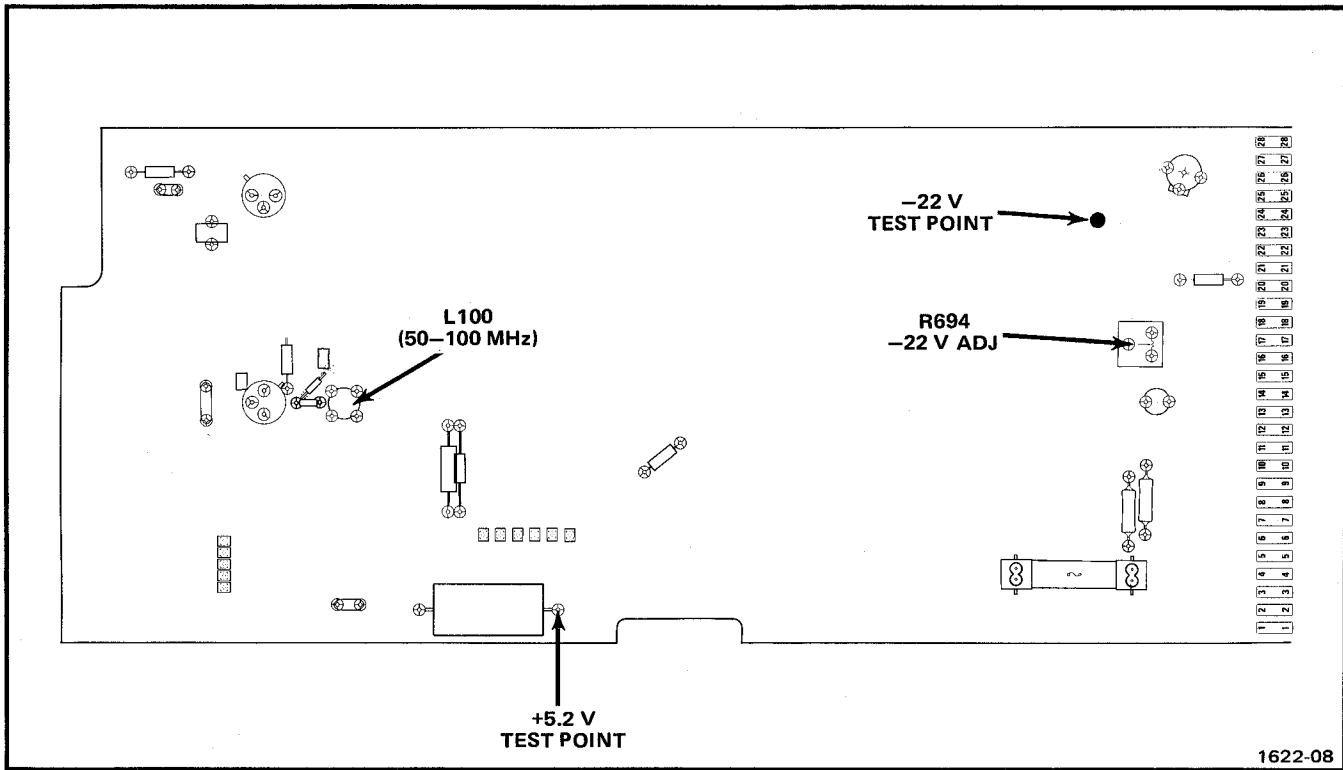

Fig. 3-1. Location of test points, L100, and -22 volt adjustment.
a. Connect the digital voltmeter between the -22 V test point on the Main circuit board, and chassis ground. See Fig. 3-1 for voltage test point location.
c. Adjust— -22 V adj, R694, for a meter reading of -22 volts. See Fig. 3-1 for adjustment location.
a. Connect the digital voltmeter between the +5.2 V test point on the Main circuit board, and chassis ground. See Fig. 3-1 for voltage test point location.